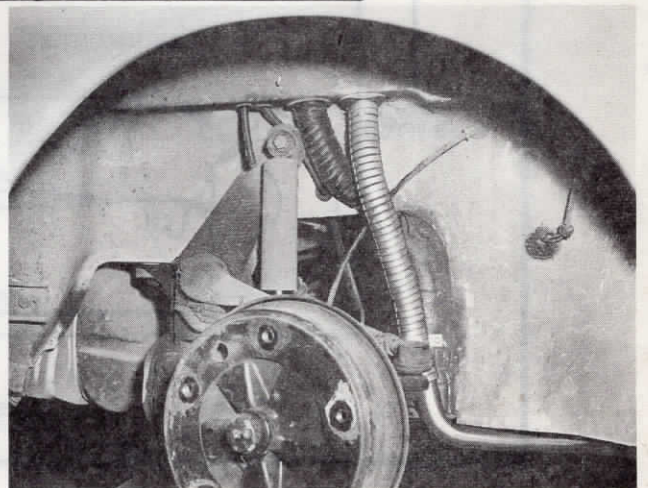

Figure 30 - Models 1500 and 1600
3. Route flexible exhaust tubing straight down along inside of wheelwell indentation. (See Figure 30).